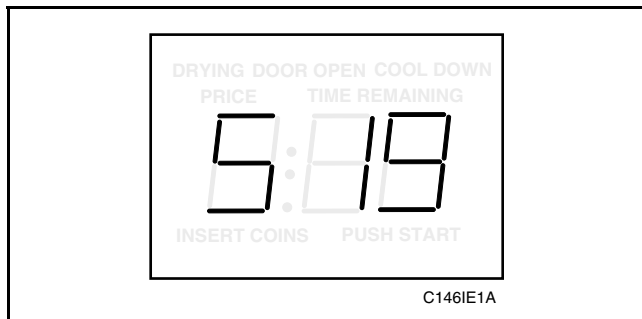

Figure 11
- While pressing and holding the HIGH TEMP pad with one hand, press the MED TEMP pad with the other hand. Programmable option number 1, (Audio Signal “Sig”), will appear in the VFD, *Figure 11*.